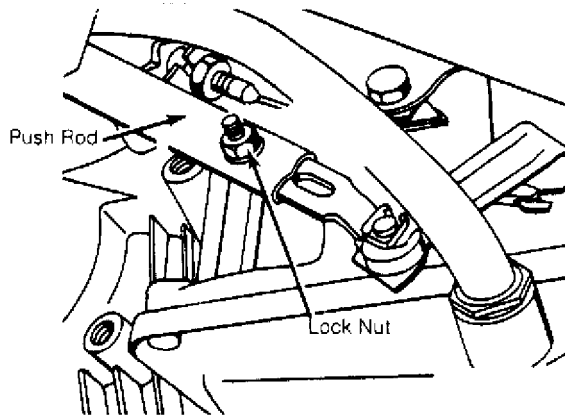

Fig. 6: Adjusting Quantum Transaxle Push Rod
5) Loosen nut on push rod. See Fig. 6. Slide push rod apart so transaxle operating lever is in closed-throttle position and throttle body lever is against idle stop. Tighten nut on push rod.